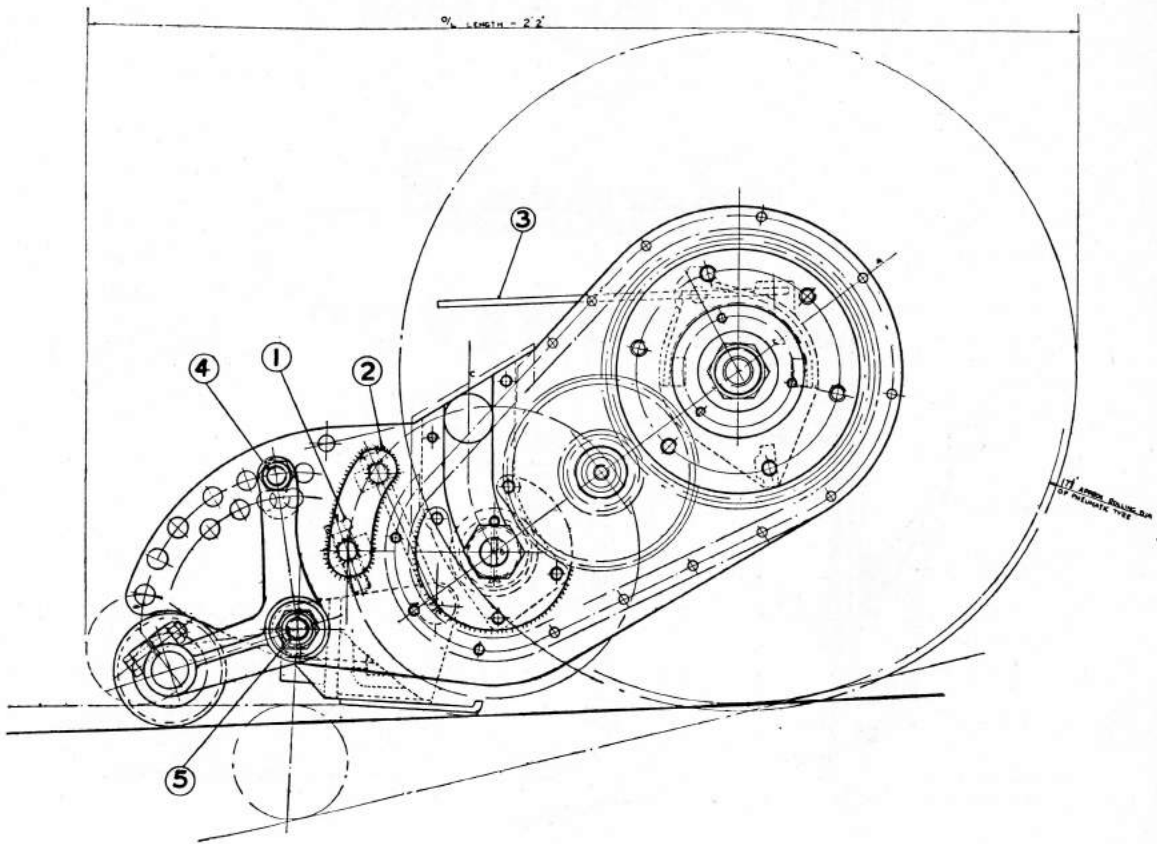

Fig. 11
For topping long grass the Overlawn Unit may be used in the lifted position, for a very high cut the bolts (5) may be lowered to the second hole in the rear roll carriages (4) (fig. 11), but for close cutting the bolts will have to be returned to the top holes.